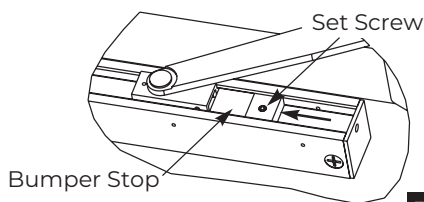

Figure 24
- Tighten set screw in bumper stop so bumper will stay in position. (Figure 24)